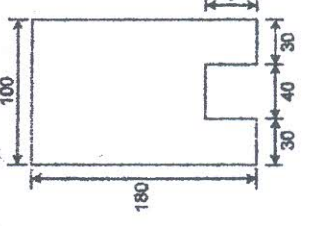

Fig.2
- b) A groove  $40 \text{ mm} \times 40 \text{ mm}$  is cut symmetrically at the bottom of a rectangular beam section as shown in fig. 2. If the tensile stresses shall not exceed  $25 \text{ N/mm}^2$ , Find the safe uniformly distributed load which the beam can carry on a simply supported beam of a span  $4 \text{ m}$ . (All dimensions are in mm) [6]